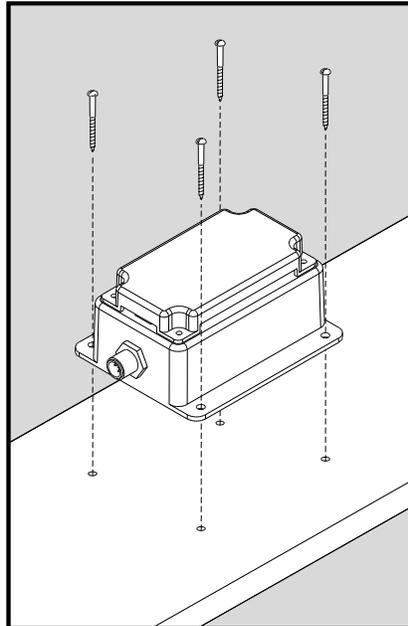

Figure 1 – Mounting the TMP100
Attach the TMP100 securely to the vessel using the included stainless steel mounting screws or other fasteners as shown in Figure 1 below. Do not use threadlocking compounds containing methacrylate ester, such as Loctite Red (271), as they will cause stress cracking of the plastic enclosure.